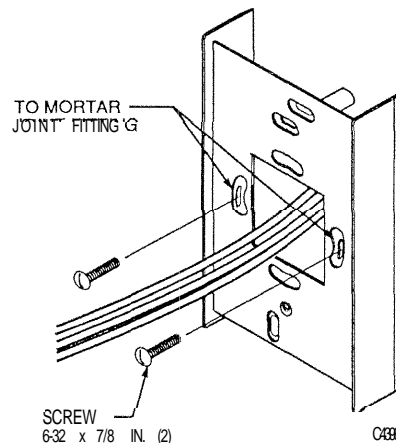

Fig. 9. Baseplate Installation.
3. Thread the tubing through the opening in the baseplate. Secure the baseplate with two screws (Fig. 9). Level the baseplate before tightening the screws.